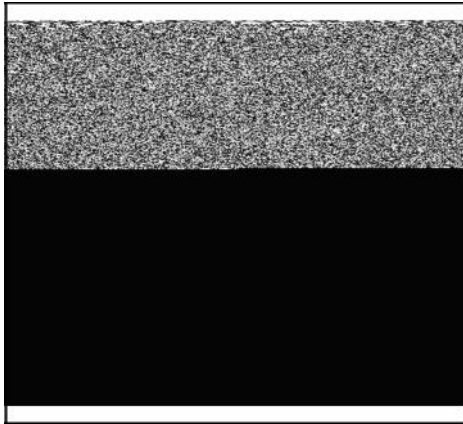

Figure 20
1. Insert two long screws and screw locks (A, Figure 20), if equipped, with tabs against the ribs of gear case.
5. Install and hand tighten two short screws with lock washers to the outside of gear case (B).